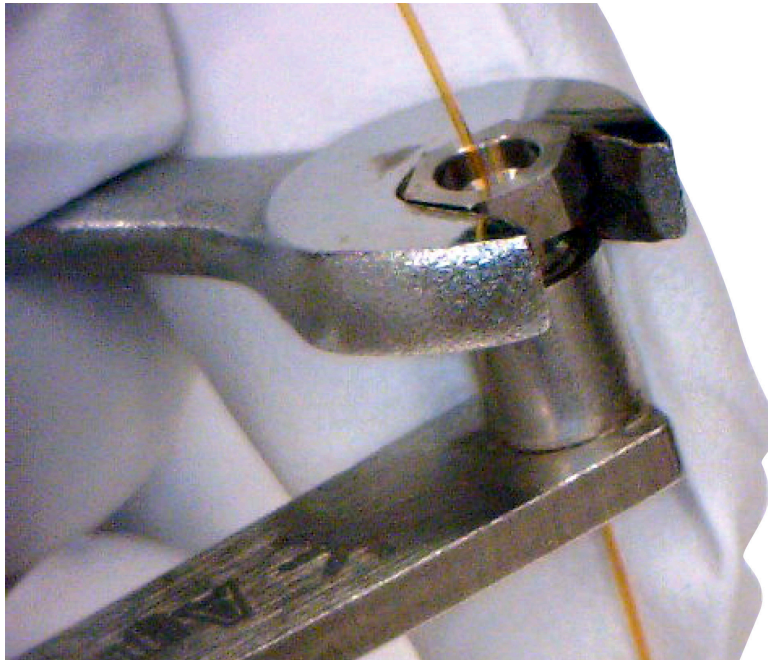

Figure 4 Tightening the internal nut
- c Check if the ferrule is gripping the column. If yes, stop. If not, continue to tighten the internal nut in small 5- to 15-degree increments. Check after each increment to see if the ferrule is gripping the column. Stop as soon as gripping occurs (see Figure 4).